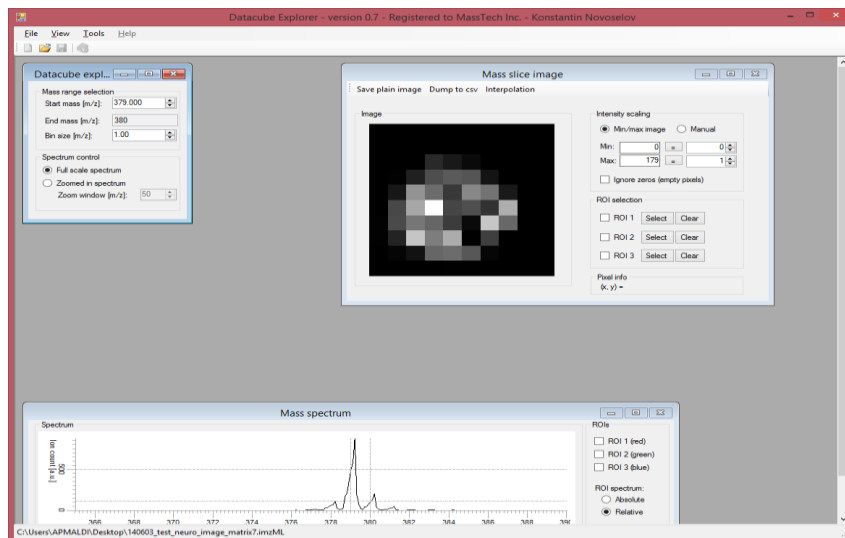

Figure 7.12.13 Datacube Explorer – Version 0.7
- By changing the minimum/maximum value and selecting the appropriate m/z interval, the user's test data should look like in Figure 7.12.13.